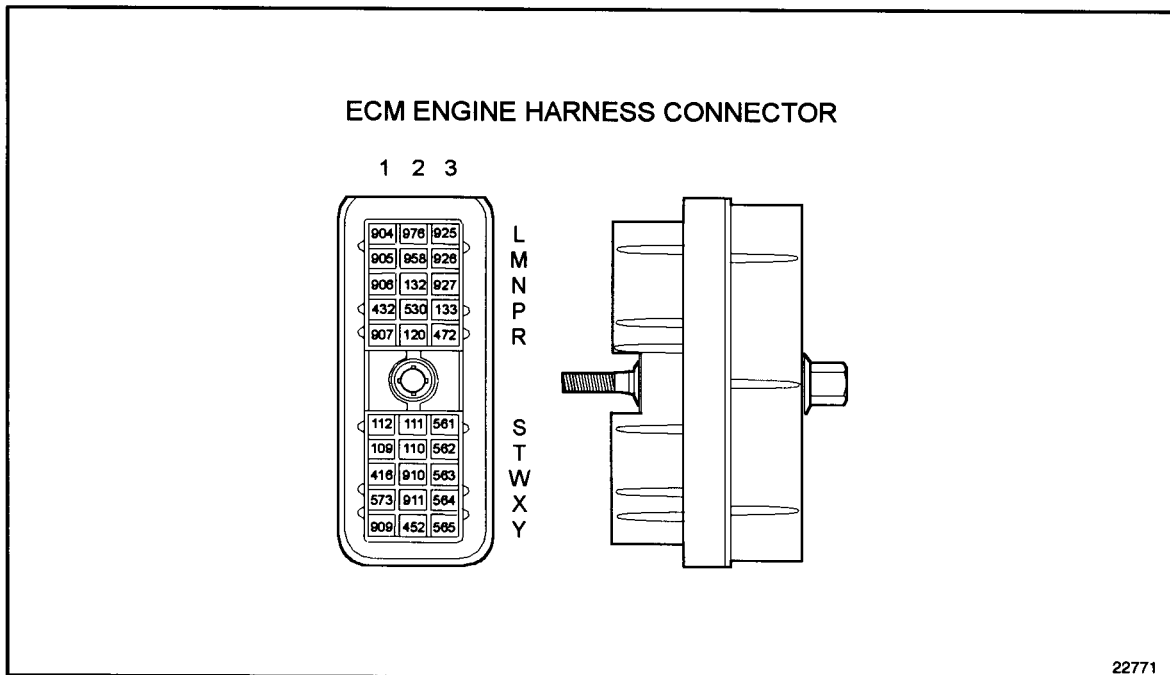

Figure 15-10 ECM Engine Harness Connector
3. Measure resistance between sockets P3 (#133) and Y2 (#452) on the master engine harness connector. See Figure 15-10.